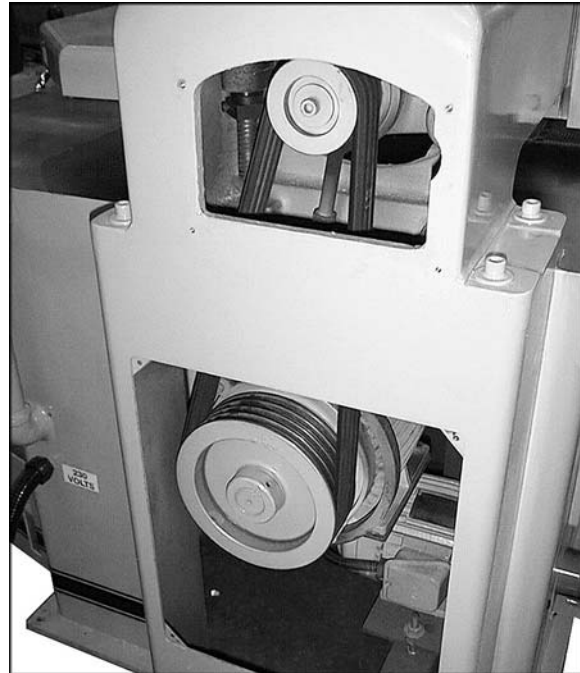
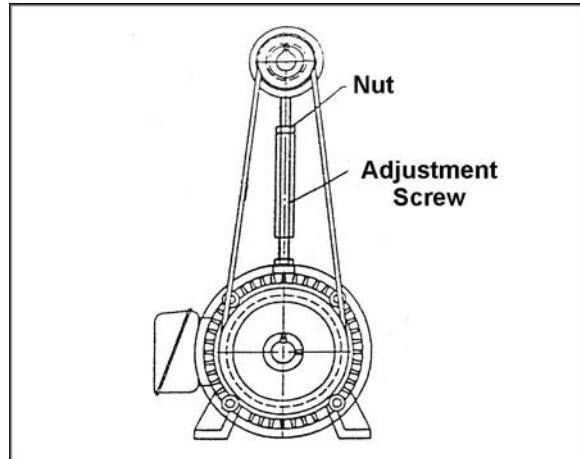

Figure 10
Figure 11
2. Open back panels to expose the motor, pulleys and belts, as shown in Figure 10. Loosen hex nut (Fig. 11) and turn the adjustment screw as needed to adjust the tension. Proper tension is achieved when there is a small amount of deflection by using moderate finger pressure on the belt midway between the pulleys.
3. Tighten hex nut (Fig. 11) and replace panels.